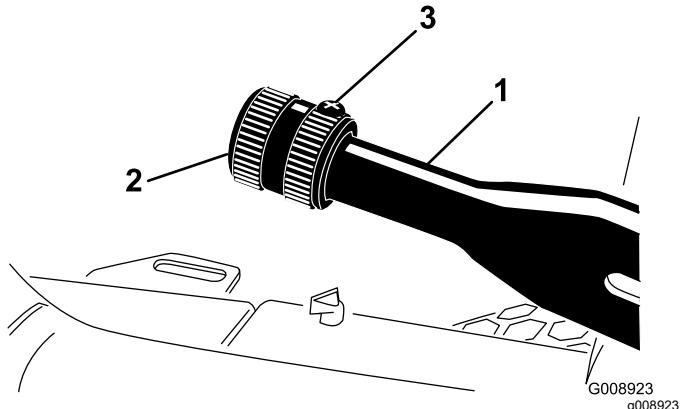

Figure 62
1. Loosen the setscrew securing the knob to the parking-brake lever (Figure 62).